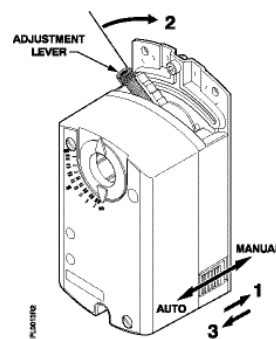

Figure 7. Manual Override Switch.
1. Slide and hold the manual override switch in the MANUAL position (Figure 7).